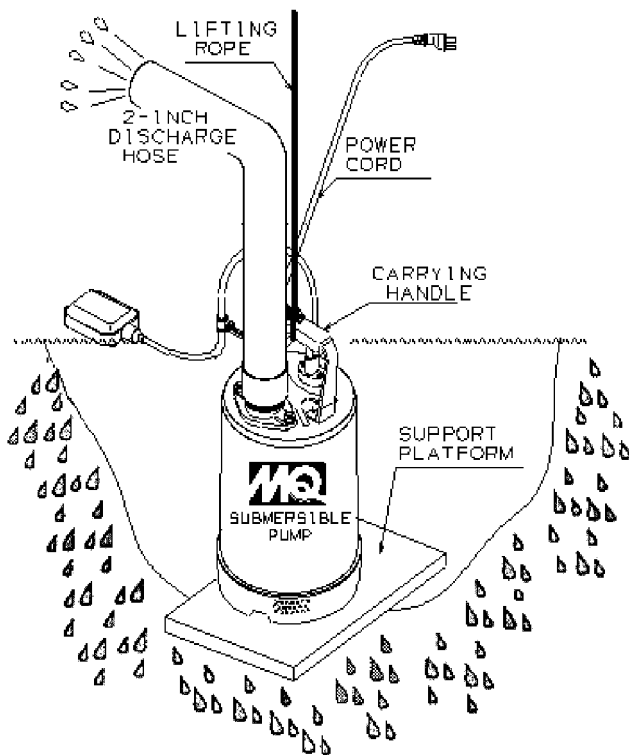

Figure 6. Submersible Pump Upright Position(Correct)
1. Connect a 2-inch hose to the discharge port on the pump as shown in Figure 6. Make sure that the hose is attached correctly to the discharge port.
1. Attach a suitable lifting cable (rope) to the carrying handle (Figure 6) on the pump and lower the pump into place. For applications where there is an excessive amount of mud, grit or silt, the use of a support platform is desirable. When pumping water from applications where there is little or no debris, the support platform is not required.